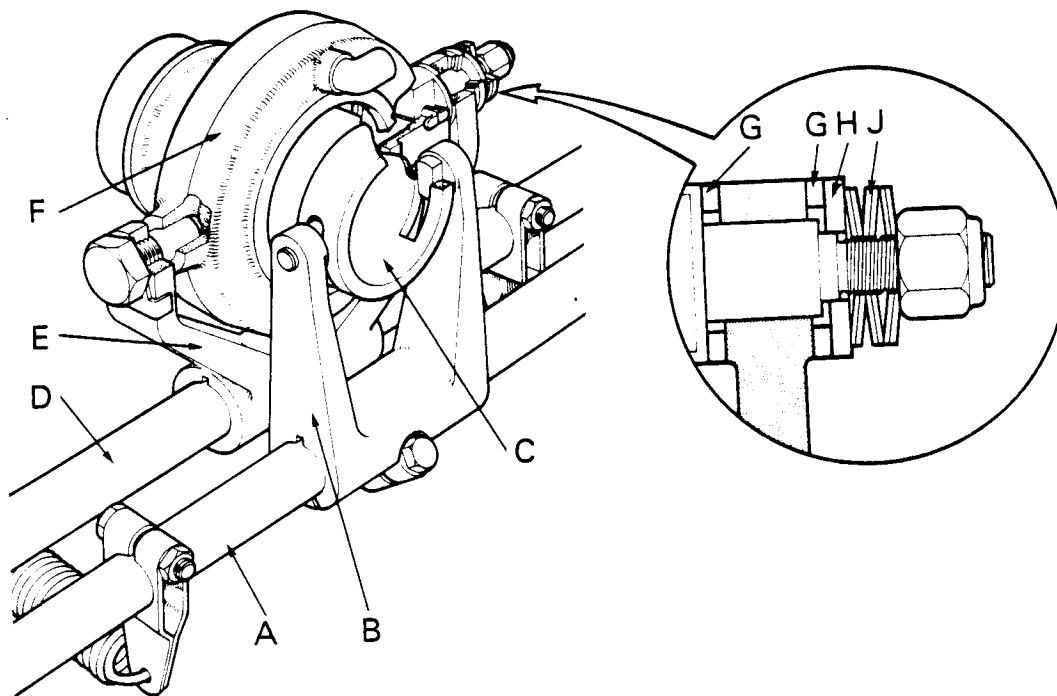

Figure 41. CLUTCH RELEASE MECHANISM — 1200 TRACTORS
(57.1 mm) long and the additional length of thread will allow six Belleville washers to be fitted in place of a single washer fitted on earlier, shorter, pin. (Fig. 41.) Fit tabwasher (626399) on left-hand pivot pin.
Connect PTO release bearing carrier to its fork, fitting six Belleville washers, plain washer and two friction washers as shown in Fig. 41. Tighten the Nyloc nut to compress Belleville washers then unscrew a half-turn.
2. If the PTO clutch fork pivot is the early type with only one Belleville washer, fit the latest type pin (925323) and six Belleville washers (626723) as shown in Fig. 41. Tighten the Nyloc nut until the Belleville washers are fully compressed then unscrew half-a-turn. Fit the latest type tabwasher (626399) on the left-hand pivot pin.